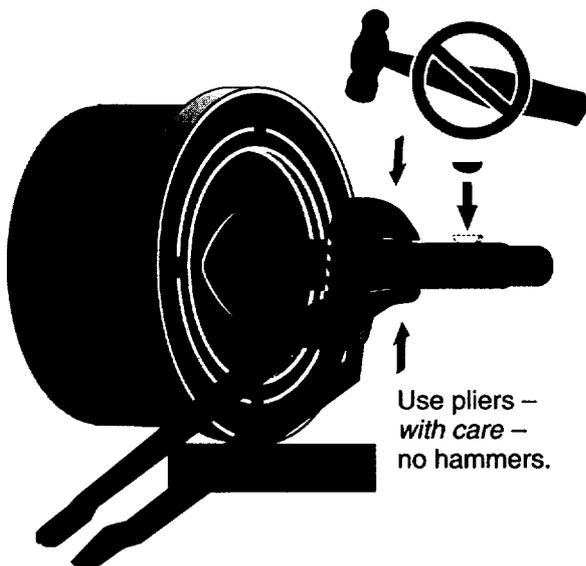

Figure 23
3. Make sure that the shaft keys are in place on the shaft. If they are not, squeeze them in place now with slip joint pliers. *Do not tap them or hit them with a hammer; you could bend the shaft (see Figure 23).* When the keys are correctly installed, the adapter will pass over the keys without interference.